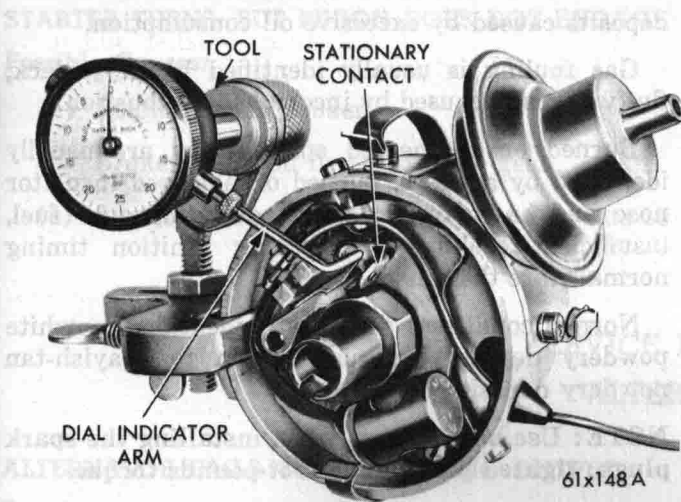

Fig. 68—Adjusting Point Clearance with Indicator
(2) Align the contacts to obtain contact in the center of the points, by bending the stationary contact bracket only. **Never bend** the movable arm to obtain alignment.
(3) After aligning the contact points, readjust the point clearance to specifications using a dial indicator (Fig. 68).
(4) Test the dwell angle to show proper degrees of closure. See Paragraph "Distributor Point Dwell". The lock screw should be loosened just enough so that the stationary bracket can be moved with a slight drag; otherwise, it will be difficult to set the points accurately. After setting the points to correct the gap, tighten the lock screw.